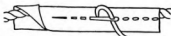

FIGURE 115
*Cord Piping* (Figure 115).—Cut bias strips of fabric in which to insert cord and proceed the same as for cord tuck, using the running stitch instead of the backstitch.